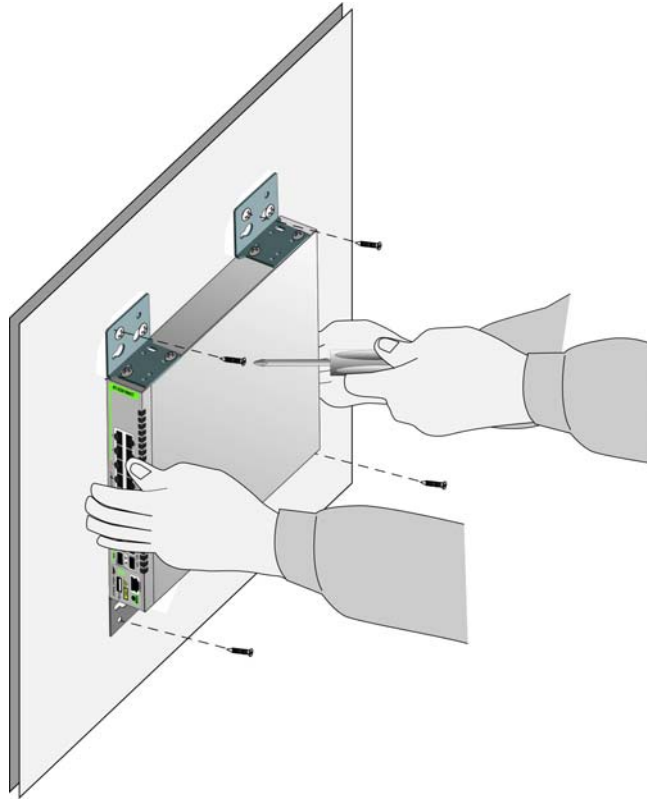

Figure 38. Installing the Switch on a Concrete Wall
7. Have another person hold the switch at the selected wall location while you secure it to the wall with the four M4x32mm screws. Refer to Figure 38 on page 66.